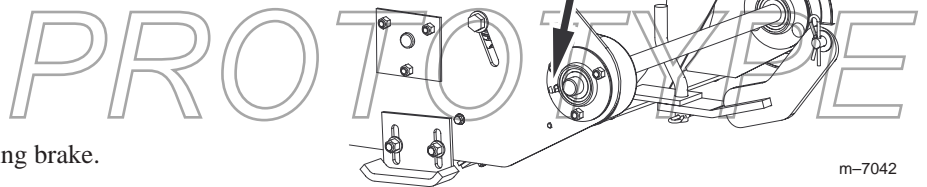

Figure 30
4. Connect a grease gun to each fitting and pump grease into them (fig. 30).